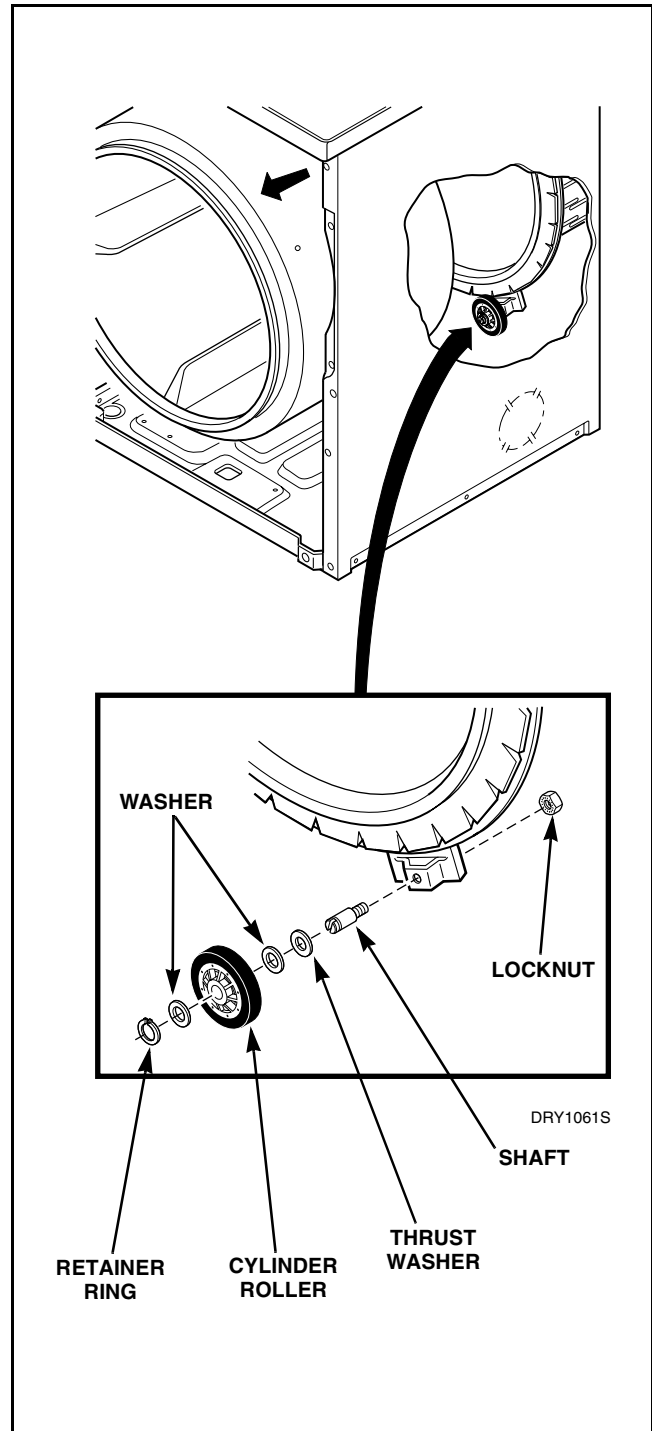

Figure 33
- Pull cylinder forward, allowing rear of cylinder to drop down, exposing rollers. Refer to *Figure 33*.
- Refer to *Figure 33* for removal of roller from roller shaft.
a. Terminal Block – Electric Models (Refer to *Figure 33*)